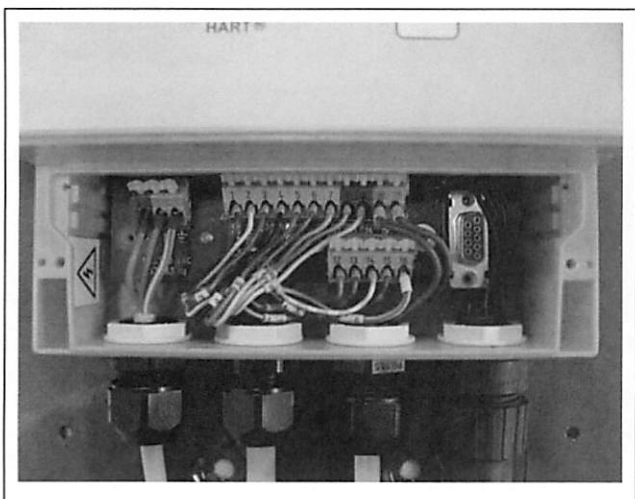

Fig. 3.
- Remove the MCAi Display Unit and shield (Figure 3).